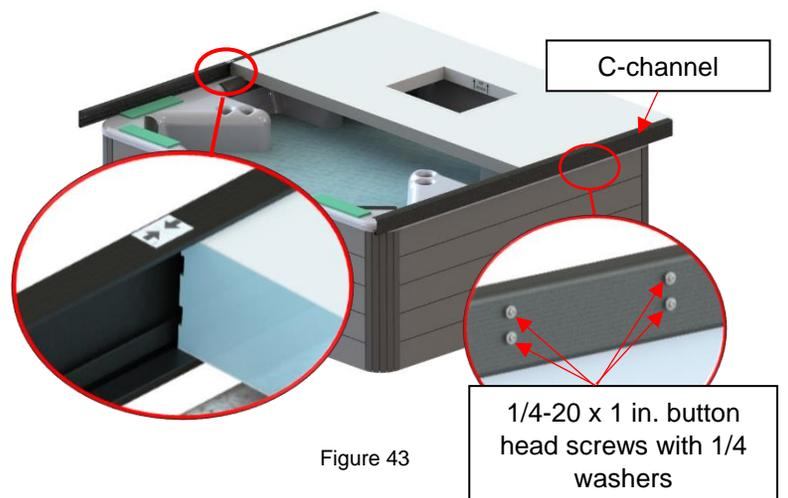

Figure 43
- 4) Assemble these C-channels over the previously placed fiberglass panel so that the screws on the C-channels are offset toward the rear of the hot tub. Use the center label to align the center of C-channel with the edge of the panel. (Figure 43)
**Note:** It is recommended to slightly engage the top flange before the bottom flange when sliding the C-channel onto the foam panel. (Figure 43)
- 5) Install the I to C small connection plate to the I-beam by using 1/4 in.-20 x 5/8 in. carriage bolts, 1/4 in. lock washers, 1/4 in.-20 nuts and 7/16 (11 mm) socket wrench and spanner. Leave a 1/4 in. (6 mm) gap in-between the I to C connection plate and the I to C bracket. (Figure 43)